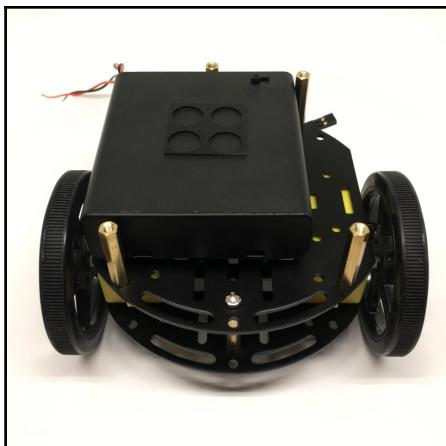

Figure 2.16: Placing the 4 x AA battery box. Image courtesy of Adafruit Industries (<https://www.adafruit.com>); Image credits—Tyler Cooper
3. Place the battery box (*Figure 2.16*):